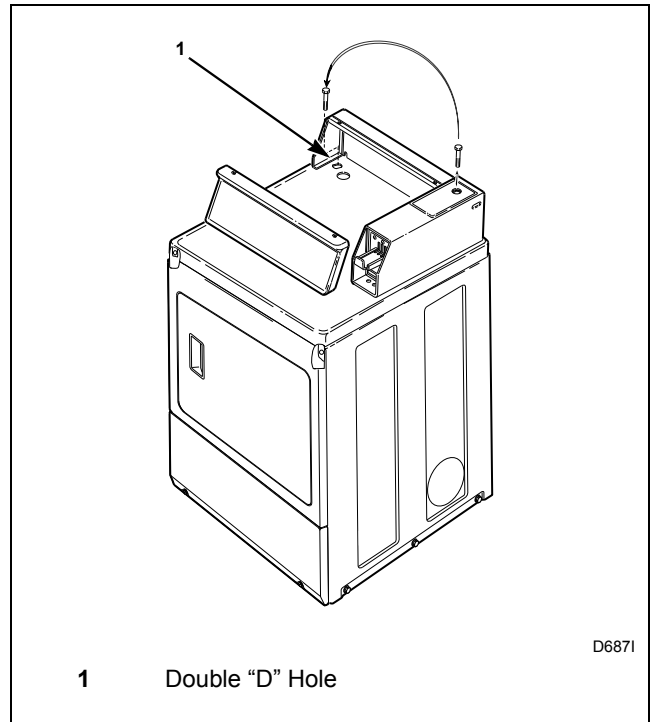

Figure 39
1. Remove the Phillips head screw from service door. (Refer to *Figure 39*.)